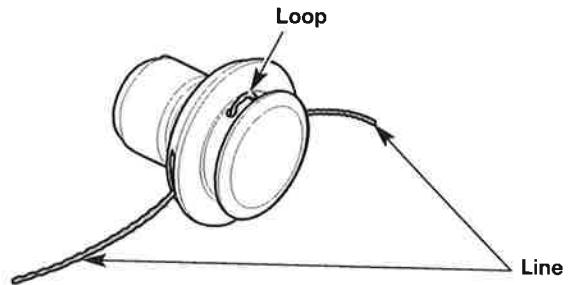

Fig. 25
4. Pull the ends of the line until the line is tight against the cutting head. Make sure the ends of the line are of equal length (Fig. 25). If one end is longer than the other, push the longer end back through the cutting head partway and pull the shorter end out. If necessary, repeat this process until both ends are of equal length.
5. Press the exposed loop of trimming line until it is tight against the cutting head (Fig. 25).